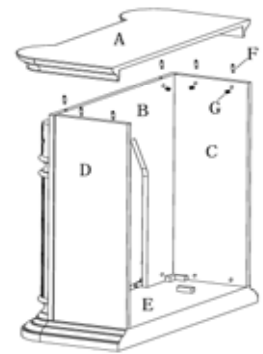

Figure 3
- Place Screw 6 CAM DOWELS (F) into the TOP (A) as shown in figure 3. Insert 6 CAM LOCKS (G) into the mating holes in the LEFT SIDE (C), RIGHT SIDE (D) and FRONT PANEL (B) with the triangle arrow pointing towards the hole in the edge. Mate the LEFT SIDE (C), RIGHT SIDE (D) and FRONT PANEL (B) with the CAM DOWELS (F) in and Top (A) and twist CAM LOCKS (G) clockwise with a screwdriver to tighten mantel sides to front panel.